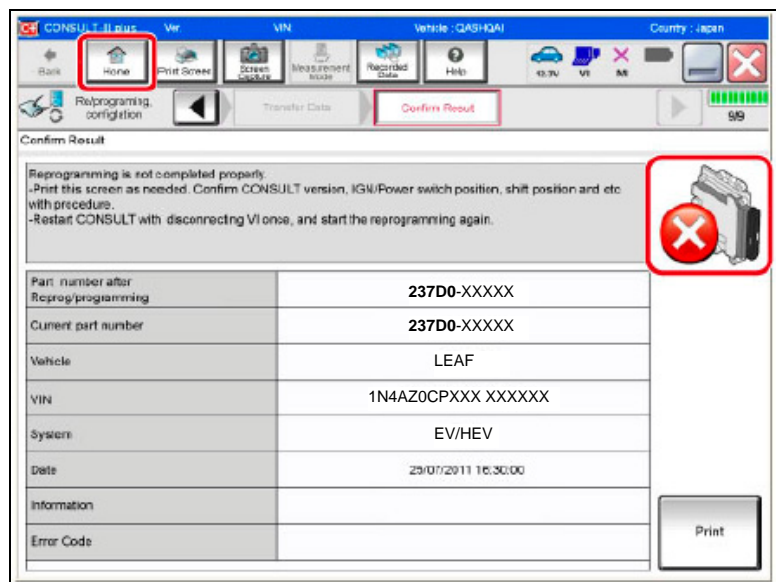

Figure 20
**If reprogramming does not complete and the “X” icon displays as shown in Figure 20:**